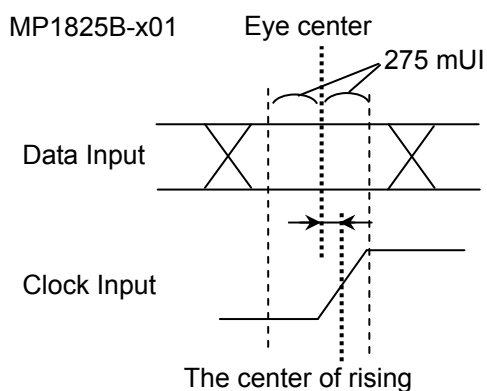

Figure 3.3-1 Phase Difference Between Data Input and Clock Input (MP1825B-x01)
- Adjust the Data/Clock phase difference that are input to Data Input and Clock Input, as shown in Figure 3.3-1.
- Adjust the Data/Clock phase difference that are input to Data Input and Clock Input, as shown in Figure 3.3-1. In case of MP1825B-x03, the phase difference can be auto-adjusted by using the Data/Clock Adjustment function.
- Adjust the phase difference between data and clock to be input to Data Input and Clock Input, as shown in Figure 3.3-1. In case of MP1825B-x03, the phase difference can be auto-adjusted by using the Data/Clock Adjustment function.